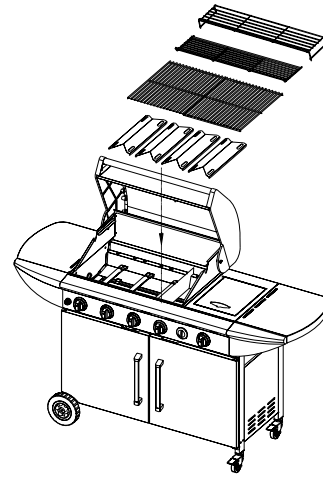

Figure 20
1. Evenly space cooking grids on the ledge above flame tamers. (Fig.20)
2. Slide the 1st(bottom) warming rack into the brackets in the grill bowl side panels, and insert the legs of the 2nd(top) warming rack into the holes in the tops of the grill bowl side panels. (Fig.20)